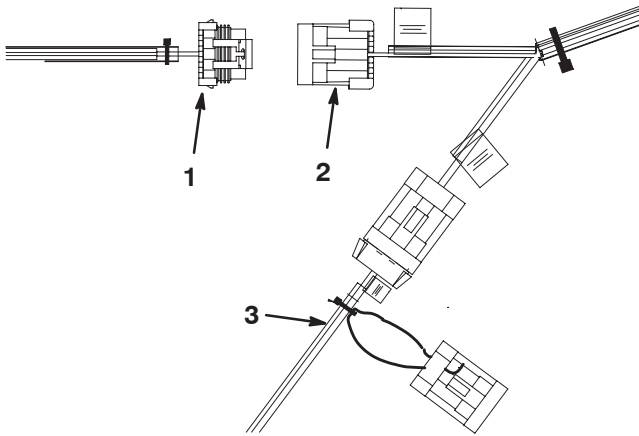

Figure 1
2. Unplug the control box wire harness from the sweeper harness (Fig. 1). Do not unplug the power harness from the sweeper.